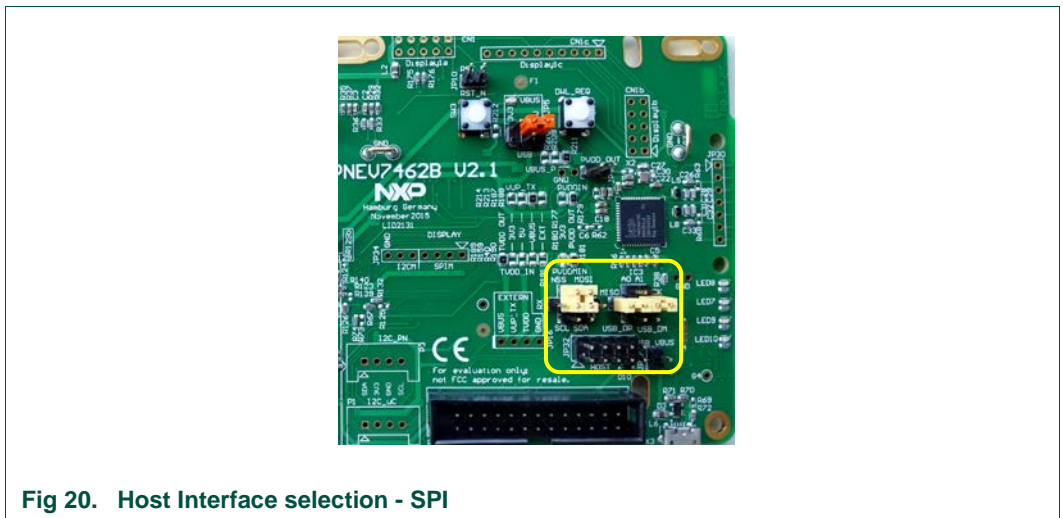

Fig 20. Host Interface selection - SPI
The yellow marked jumpers (Fig 20) needs to be set for using the SPI host interface of the chip. This will connect the SPI\_MOSI of the PN7462AU to the I/O P0(18), SPI\_MISO to the I/O P0(17), SCK to the I/O P0(15), and also the NSS of the PN7462AU to the I/O P0(16) of the LPCXpresso board.